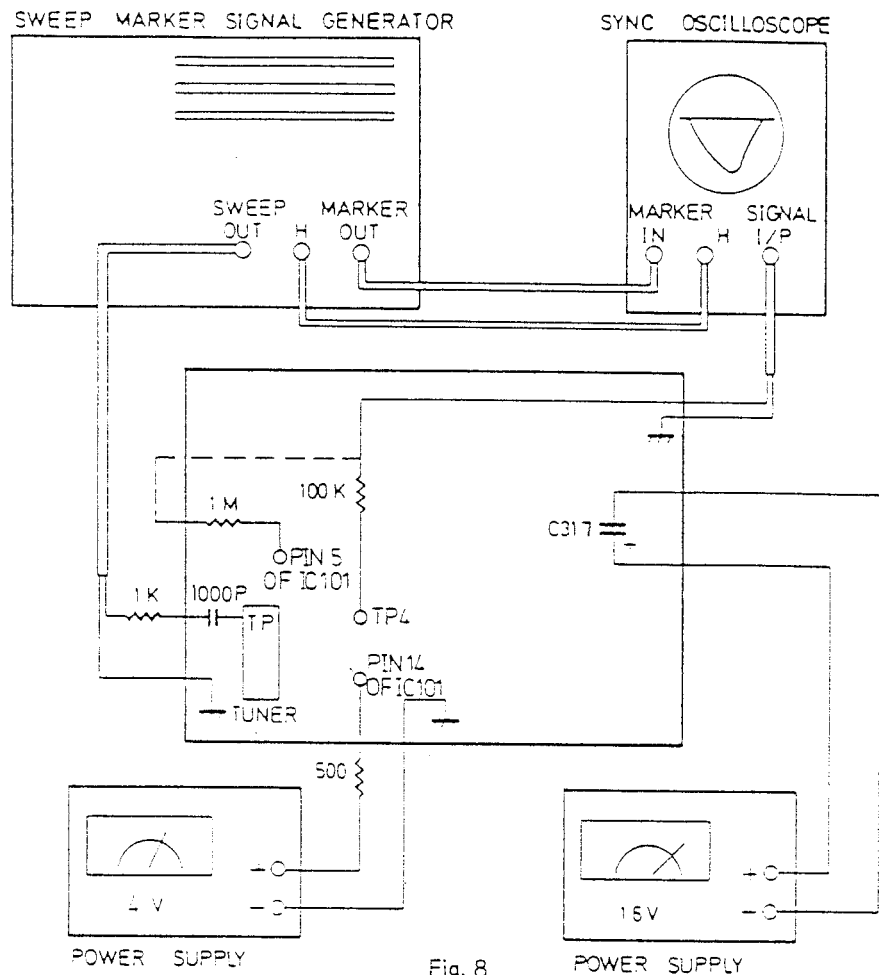
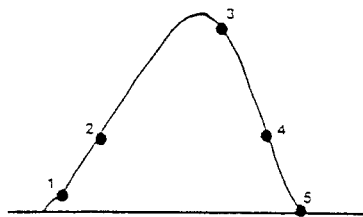

Fig. 8
Fig. 9 P.I.F. Response Curve
- (1) Connect the signal output of sweep/marker generator in series to Tp on tuner through 1 Kohm resistor and 1000PF capacitor (See Fig. 8).
- (2) Connect the vertical input terminal of an sync oscilloscope in series with a 100 Kohm resistor to Tp4.
- (3) Apply a+16V DC across C317 on Main Board.
- (4) Apply a+4V DC dummy AGC bias in series to Pin 14 of IC101 through 500 ohm resistor.
- (5) Tune L103 and L104 alternatively to obtain a waveform as shown in Fig. 9.